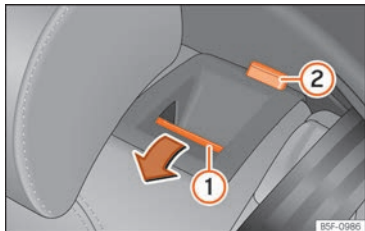

Fig. 129 Rear seat: folding the backrest.
- Pull the unlock button »» **Fig. 129 1** forward and lift the backrest at the same time. The rear seat backrest is not engaged when the red marking of the button **2** is visible.